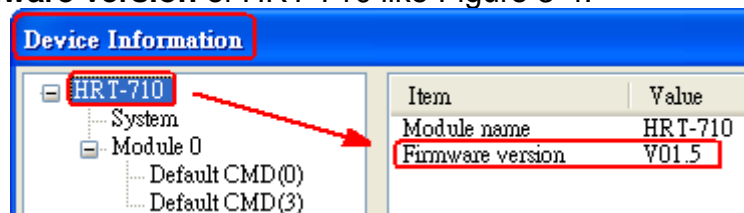

Figure 3-4 Firmware Version of HRT-710
(3) Check the **firmware version** of HRT-710 like Figure 3-4.